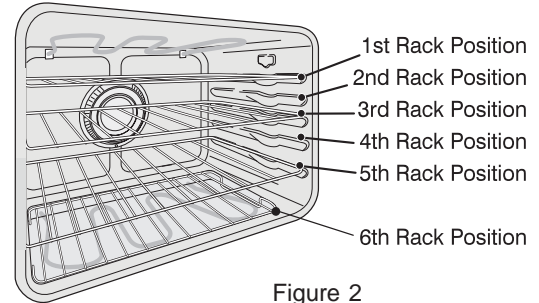

Figure 2
3. When using Convection Bake with a single rack, place oven rack in position 3 or 4. If cooking on multiple racks, place the oven racks in positions 1, 3 and 5 (for 3 racks) and positions 2 and 4 (for 2 racks; See Fig. 2).